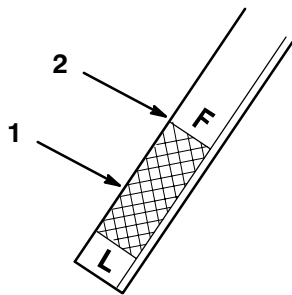

Figure 43
6. Slide the dipstick fully into the filler tube (Fig. 6). Pull the dipstick out and look at the metal end. When the transaxle is cold, oil should be in the operating range, below the FULL line on the dipstick (Fig. 43).